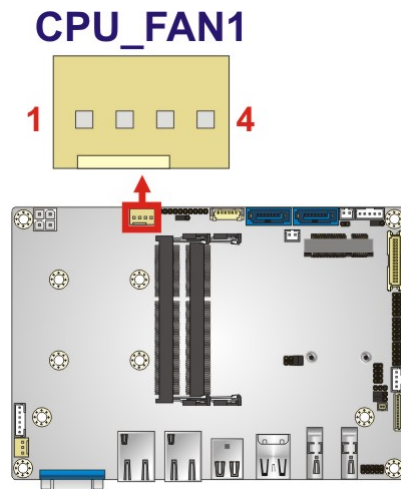

Figure 3-6: CPU Fan Connector Location
- CN Location:** See **Figure 3-6**